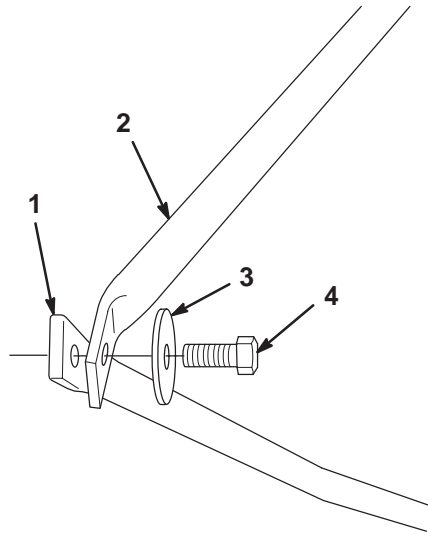

Figure 4
- For each side, align the holes in the frame ends in the rear, insert a bolt (with a washer) through the holes from the inside (Fig. 4).